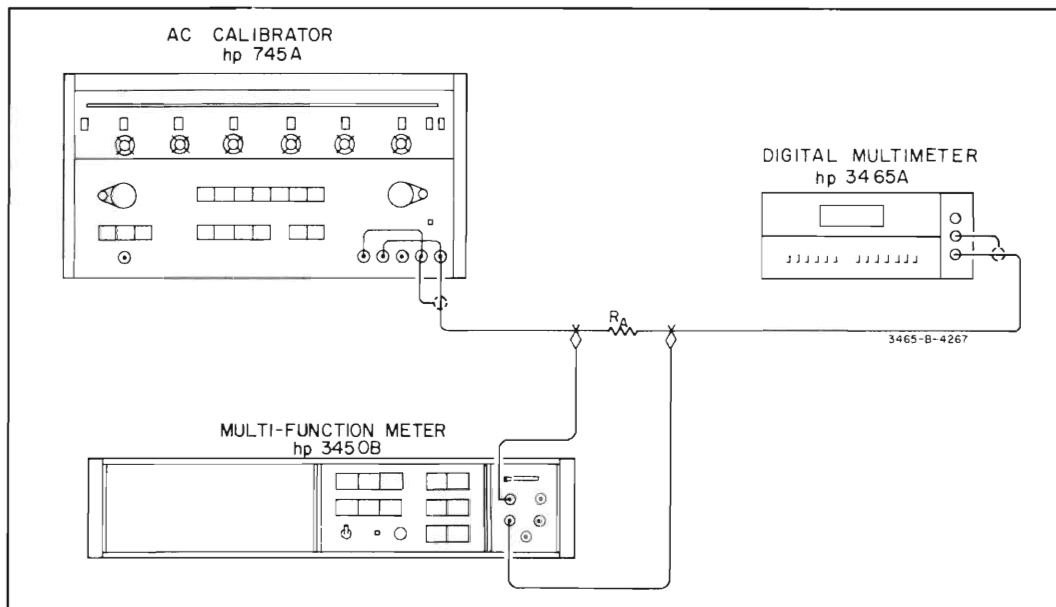

Figure 5-3. AC Ammeter Accuracy Test 100 μ A thru 10 mA Range.
a. Set the Multimeter function to ACA (\sim A) and range to 100 μ A. Connect the equipment as shown in Figure 5-3 using a discrete resistor for R_A . (To select R_A , note the
f. Reconnect the 3450B Digital Voltmeter as shown in Figure 5-3.